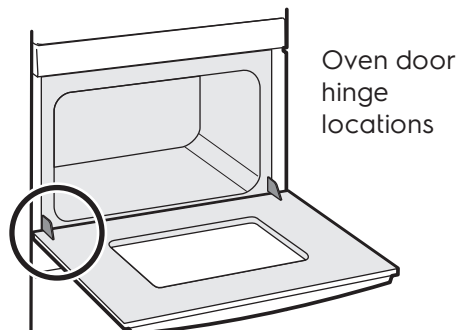

Figure 27: Door Hinge Location
1. Open oven door completely, horizontal with floor (Figure 27).
3. Fully open the oven door, horizontal with floor (Figure 27).